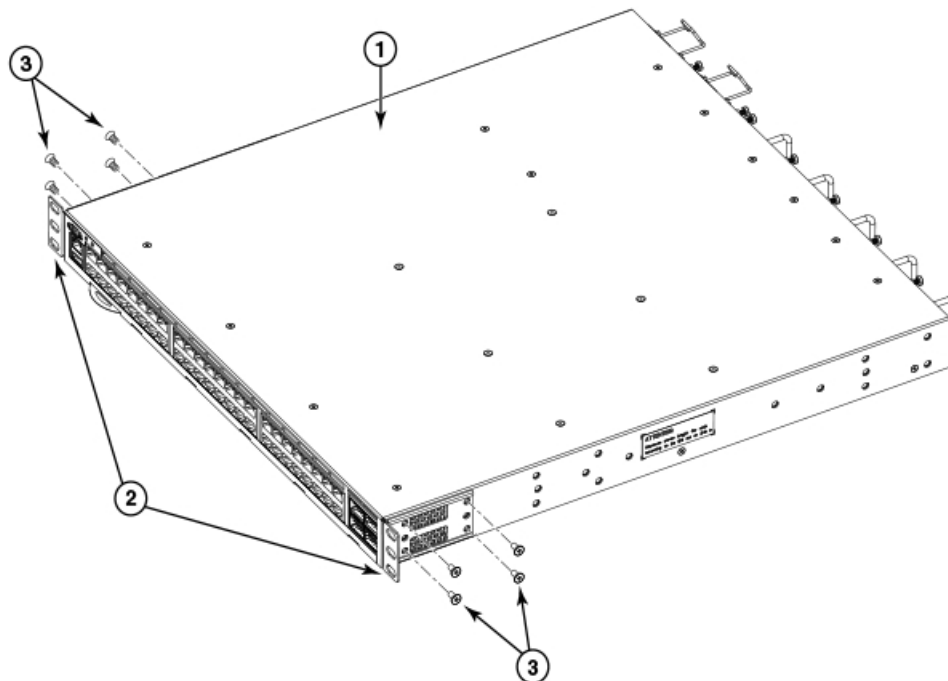

Figure 4. Attaching the front brackets
1. Position the right front bracket with the flat side against the right side of the device at the front of the device, as shown in Figure 4.